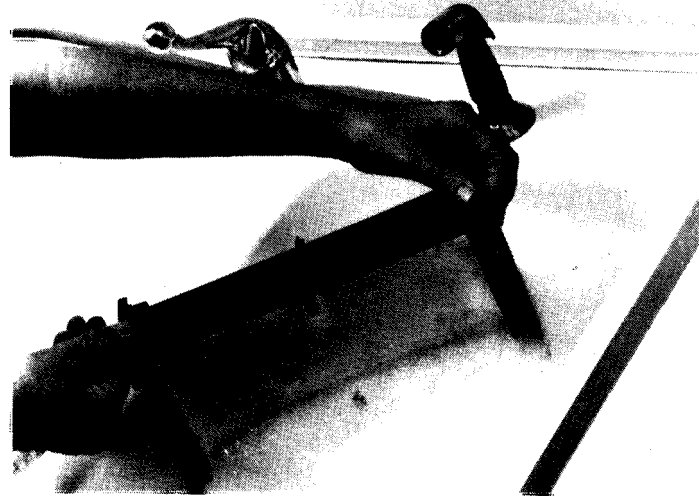

Figure 9
D. After the cell has soaked sufficiently, it should be shaken vigorously in water until clean. (Figure 9).